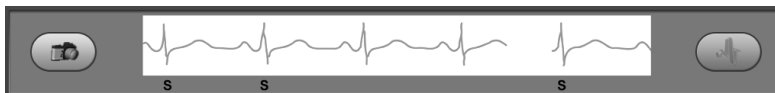
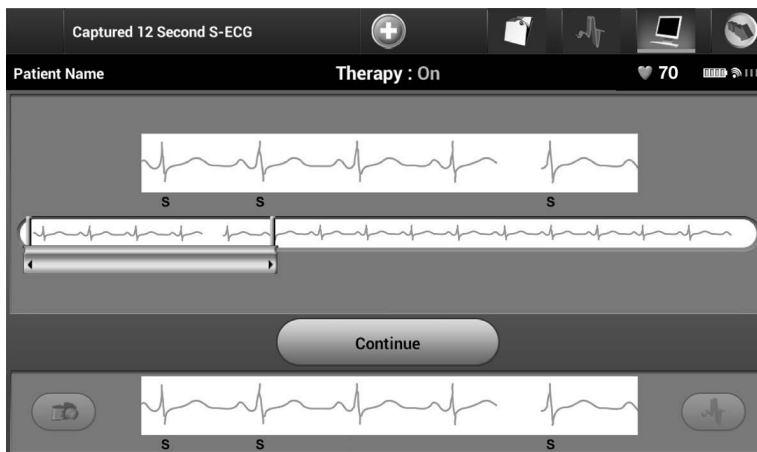

Figure 43: Select the Capture S-ECG button
Figure 44: Captured S-ECG rhythm strip
1. Select the Capture S-ECG button located to the left of the Live S-ECG window (Figure 43). The S-ECG will scroll across the display screen. Calipers appear below the Captured S-ECG rhythm strip (Figure 44). Each 12-second recording is date and time stamped according to the programmer's date and time setting.